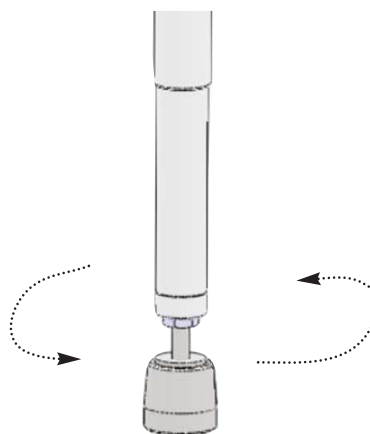

Figure 21
**E Leveling:** The roll-in and tub sections must both be level and equal in height. To further adjust the height on the tub section legs, rotate the crutch tip feet clockwise or counterclockwise (Refer to Figure 21).